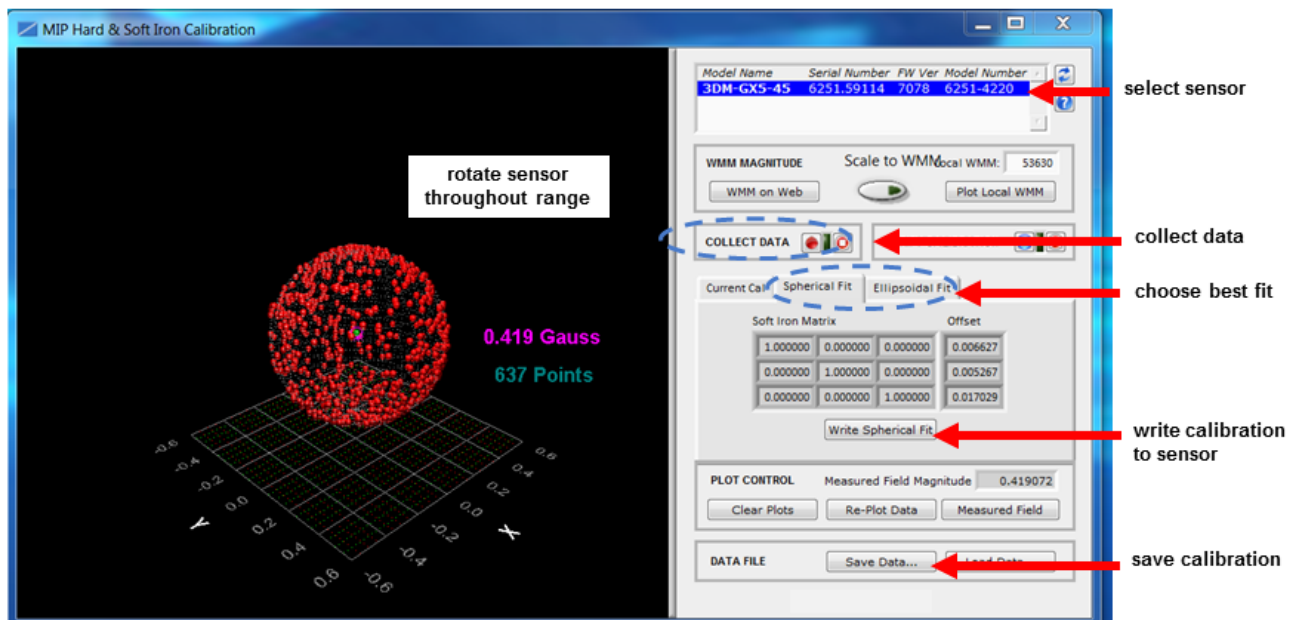

Figure 27 -Collect Calibration Data
- Click the Spherical Fit or Ellipsoid Fit button, depending on the application (Figure 27 - Collect Calibration Data ). Spherical Fit is often best for applications with calibration rotations restricted to a 2D plane: for example, a ground vehicle or a boat, because it will not likely not be rotated on all three axis. Ellipsoid Fit is generally a better correction when soft iron effects are present but only if enough data points can be collected in all